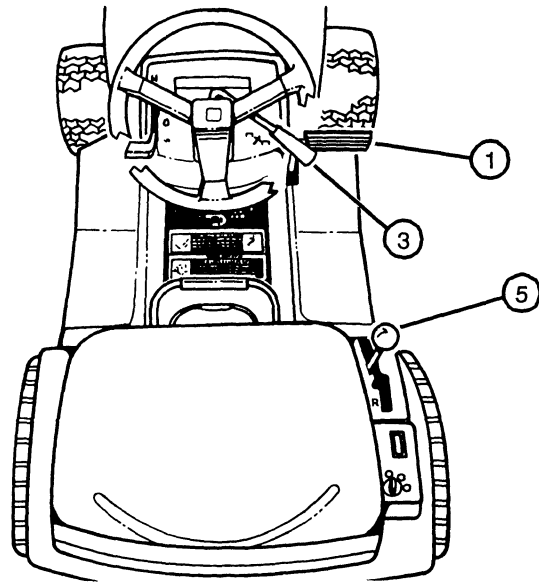

FIG. 16
- To travel forward: unlock park brake, move hydrostatic drive lever (5) to the right and forward. (See Fig. 16) The speed of the tractor is determined by how far forward the drive lever is moved. Return lever to N (Neutral) to stop tractor.
- To travel forward: Push clutch/brake pedal (1) all the way forward to brake position. (See Fig. 16)
- First gear (1) - slowest speed/highest power.
- Second gear (2) through fourth gear (4) - general mowing.
- Fifth gear (5) - driving tractor for transport. Make sure the mower deck is raised to the highest position and the mower blade is disengaged.
- Reverse (R) - backing to avoid objects.
- Move shift lever (5) to the right and forward to desired forward position.